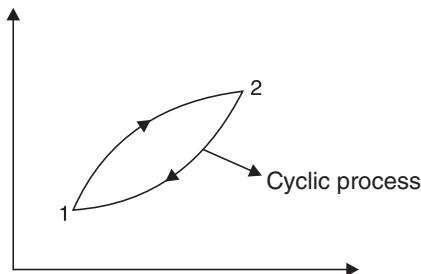

Fig. 4.1
If a system undergoes a series of changes and returns to its initial state *i.e.*, if a cyclic process is completed, internal energy is found to return to its original value, hence the sum of the changes of internal energy for a cyclic process *i.e.*, $\sum \Delta E = 0$. So internal energy (E) is a state function. Otherwise, it can be stated that when a system changes from initial state (1) to a final state (2) and comes back to (1) (Fig. 4.1), net change in internal energy is zero *i.e.*, $\oint dE = 0$ (cyclic integration of E is 0), so dE is path independent and E is a state function.